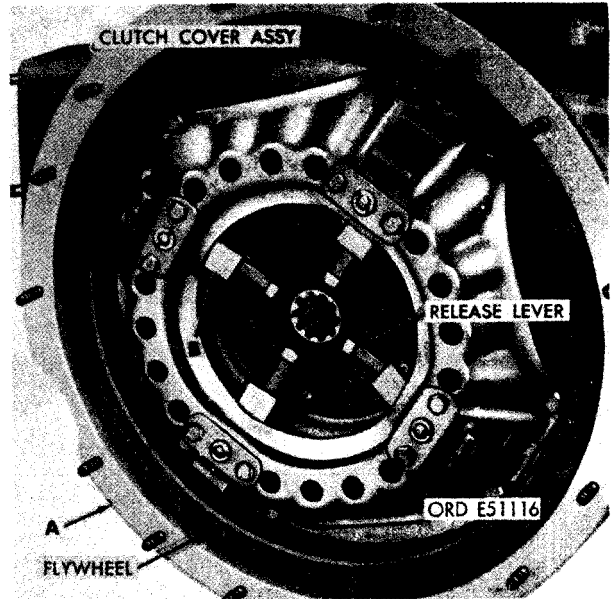

FIGURE 274. DISCONNECTING CLUTCH COVER ASSEMBLY.
- (2) Figure 274. (A) Remove and discard transmission adapter gasket. (B) Depress clutch release levers, one at a time, and place a clutch release lever spacer block (fig. 25) between lever and clutch cover as shown. The spacer blocks relieve clutch cover spring tension against cap screws securing clutch cover assembly to flywheel. (C) Remove